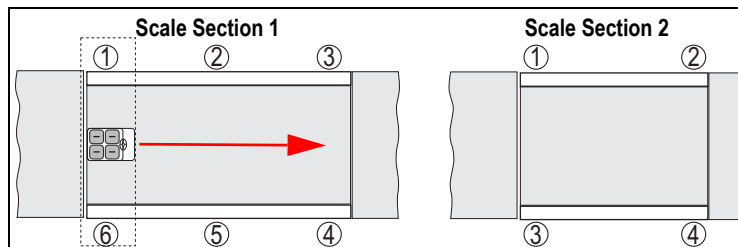

Figure 4-2. Trimming Paired Sections
5. Park the loaded weight cart in the middle of the scale, with the wheels centered over the center line of the two end load cell mounts (Figure 4-2).